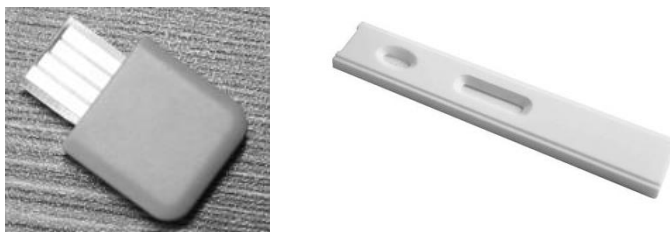

Fig 5
2.2.4 QC Card (Ref Fig 5)
QC ID card and QC Standard Cassette provided with the analyzer are used for the quality control of the analyzer. (Ref Fig 5)